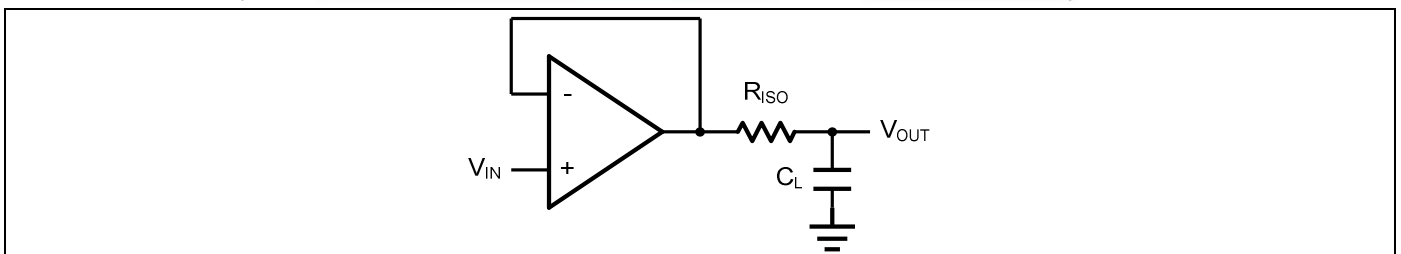
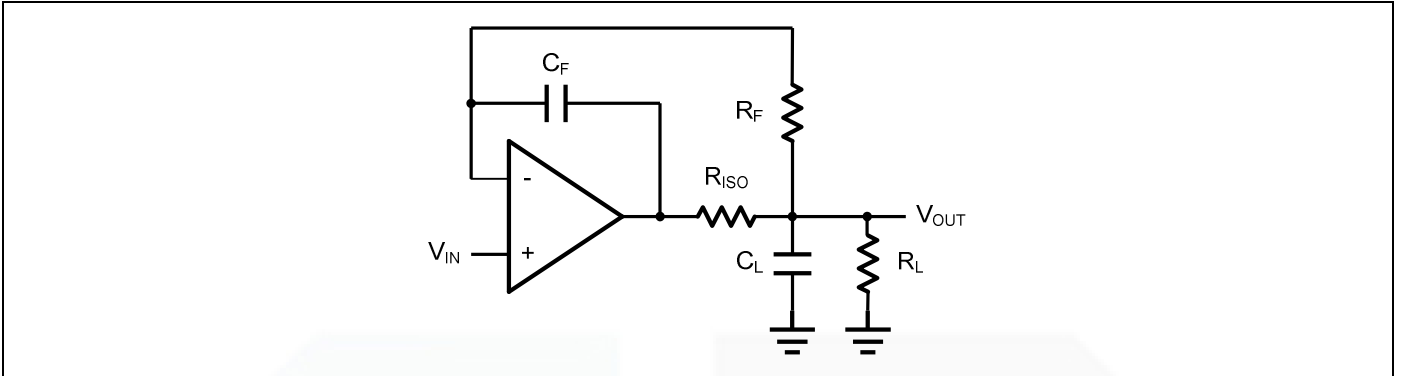

Figure 2. Indirectly Driving a Capacitive Load Using Isolation Resistor
Figure 3. Indirectly Driving a Capacitive Load with DC Accuracy
The GS872X family is optimized for bandwidth and speed, not for driving capacitive loads. Output capacitance will create a pole in the amplifier's feedback path, leading to excessive peaking and potential oscillation. If dealing with load capacitance is a requirement of the application, the two strategies to consider are (1) using a small resistor in series with the amplifier's output and the load capacitance and (2) reducing the bandwidth of the amplifier's feedback loop by increasing the overall noise gain. Figure 2. shows a unity gain follower using the series resistor strategy. The resistor isolates the output from the capacitance and, more importantly, creates a zero in the feedback path that compensates for the pole created by the output capacitance.
The circuit in Figure 3 is an improvement to the one in Figure 2. R_{F} provides the DC accuracy by feed-forward the V_{IN} to R_{L} . C_{F}